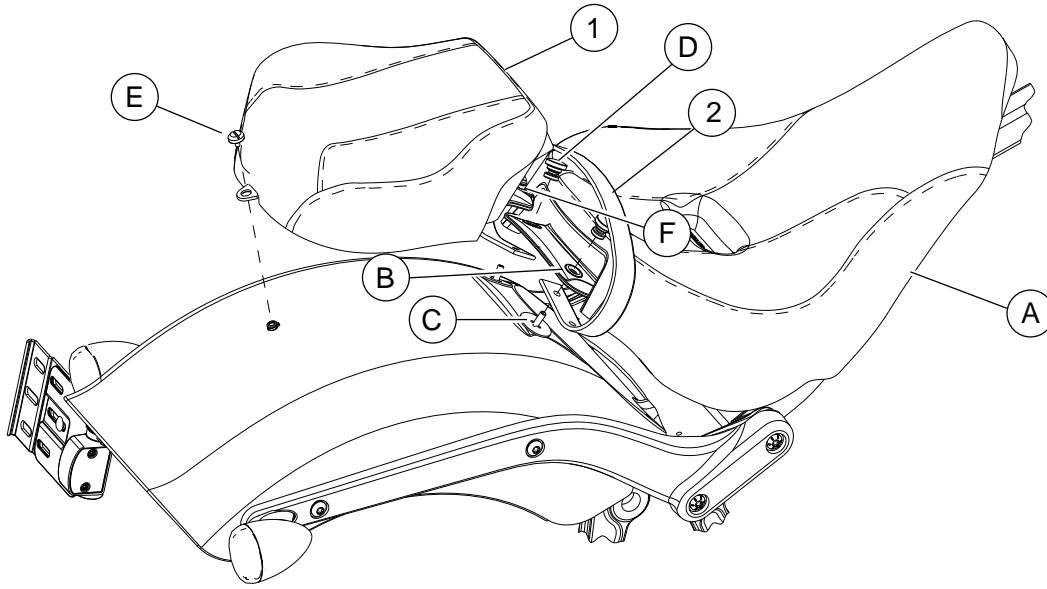

Figure 1. Service Parts: Detachable Pillion Seat
See Figure 1 and Table 1.
1. See Figure 1. Remove existing pillion from motorcycle by removing screw (E) at rear bracket and unhooking front pillion slots (F).
2. Remove seat and grabstrap by removing mushroom screws (D). Discard existing grabstrap and save mounting hardware from the motorcycle.
3. Install new grabstrap (2) on studs (C) using the outermost pair of holes on the strap.
4. Install solo seat (A) by sliding front tab of the seat into the square frame tube. Secure the rear mount bracket with seat grommets (B) inserted over the studs (C) and secure with the two mushroom nuts (D) and hand tighten.
5. Pull grabstrap forward and being careful not to scratch the paint on the fender, slide the pillion mount bracket (F) (at front and bottom of pillion) onto the mushroom head nuts (D).
6. Secure the rear of the pillion with stock mounting screw (E) and tighten while pushing down on rear of pillion. Pull up on the front of the pillion to check that the seat is secure.